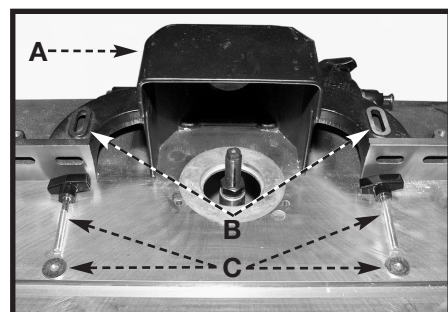

Fig. 21
1. Attach the fence assembly (A) Fig. 21 to the table. Align the holes in the table with the slots in the fence body (B) and secure with two washers and knobs (C). **NOTE:** Position the fence assembly (A) Fig. 21 either parallel to the miter gauge slot, as shown in Fig. F1, or 90 degrees to the miter gauge slot.